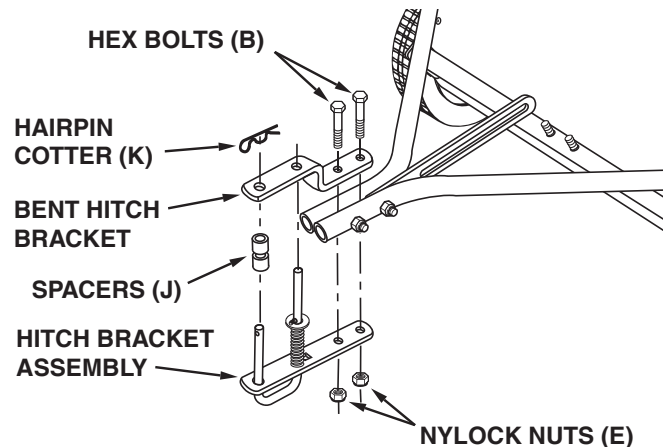

FIGURE 4
- If the tractor hitch is 10" or more above the ground, place the bent hitch bracket on top of the hitch tubes and place the hitch bracket assembly underneath the hitch tubes. Insert two hex bolts (B) through the brackets, with the rear hex bolt between the cross bolts in the hitch tubes. Secure the hex bolts (B) with two nylock nuts (E). See figure 4. **Do not tighten yet.**
- Assemble the two spacers (J) onto the hitch pin and secure the pin with the hairpin cotter (K). See figure 4.